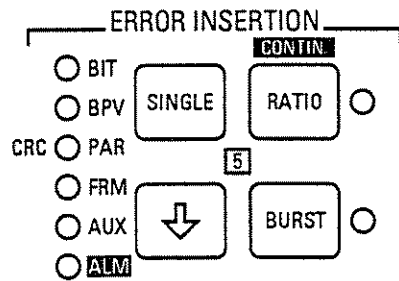

Figure 3-13: Error Insertion Keys
3.2.11 Error Insertion [5]: See Fig 3-13.